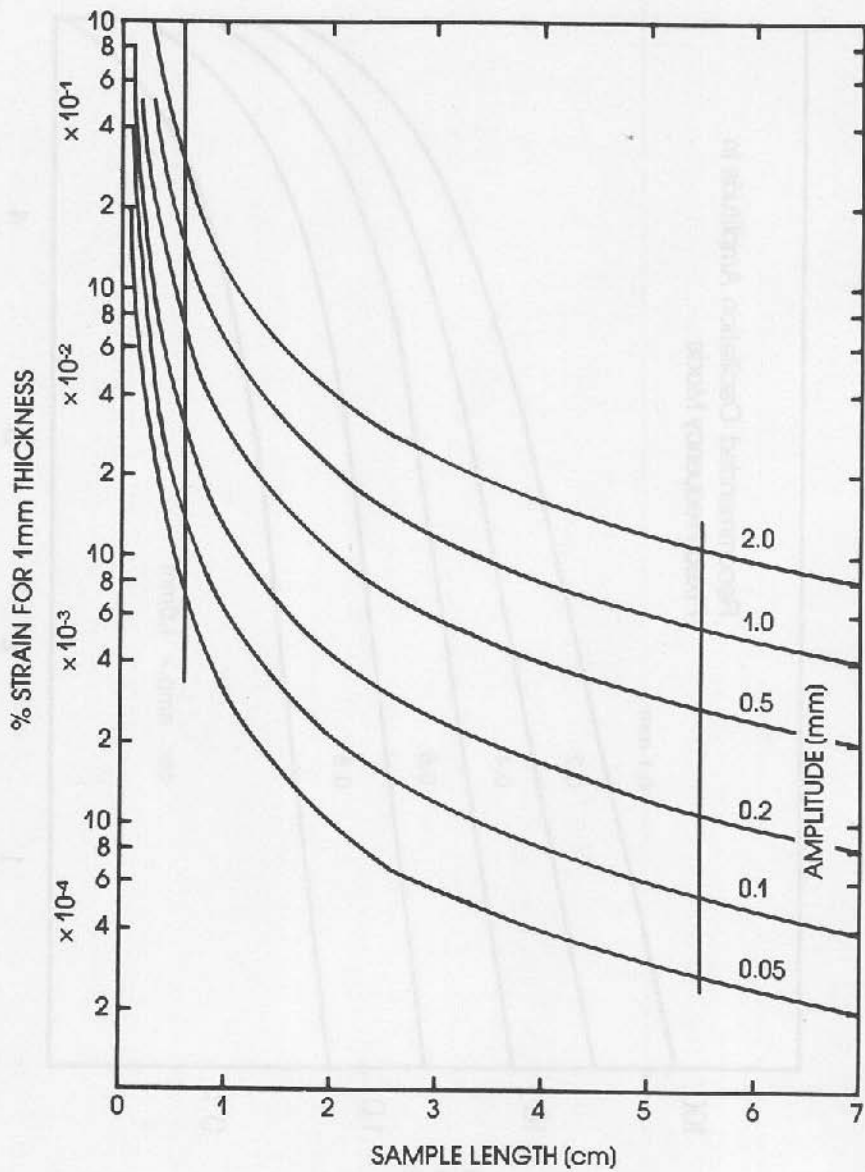

Figure 3.34
14. See Figure 3.34 to estimate the % of sample strain at different amplitude settings.